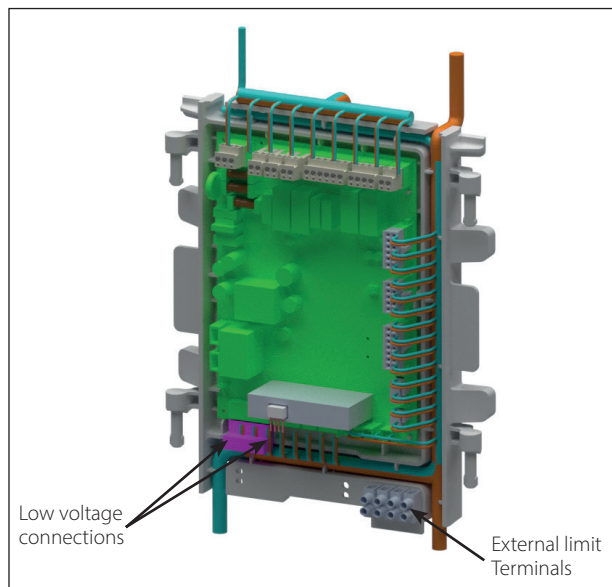

Fig. 32 - Low Voltage Connections
The low voltage terminals are located at the bottom of the CTRLMax control module. The line voltage terminals are located in the lower left corner as shown in Fig. 32 on the right.
1. Connect the DHW aquastat or temperature sensor wires to low voltage terminals X4-1&2 located at the bottom of the CTRLMax control module as shown in *Fig. 32*.
3. Connect the external limit wires to the Manual Reset Limit or Auto Reset Limit low voltage terminals located on the lower right corner of the CTRLMax control module housing as shown in *Fig. 32*.
1. Connect the system temperature sensor wires to low voltage terminals X5-3&4 located at the bottom of the CTRLMax control module as shown in *Fig. 32*.